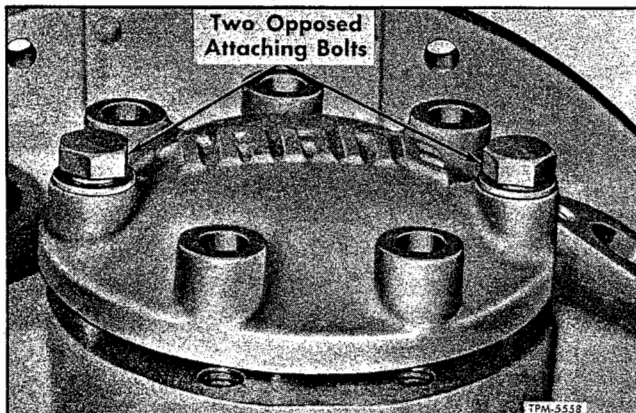

Figure 12—Method of Removing Cylinder Head Cover
2. Examine cylinder head (26) to see if head is following the attaching bolts (fig. 12). If not, tap the head with a plastic hammer until head O-ring seal (25) breaks loose.
3. Slowly and alternately remove two cylinder head bolts. Remove head and cylinder head spring (30) from compressor.
4. Remove O-ring seal (25) from groove in cylinder head.
5. Lift discharge valve assembly (24) from compressor.
6. Remove lock nut from discharge valve bolt (31). Remove bolt and valve seat (32). Separate discharge valve (29) and four springs (28) from discharge valve cage (24).